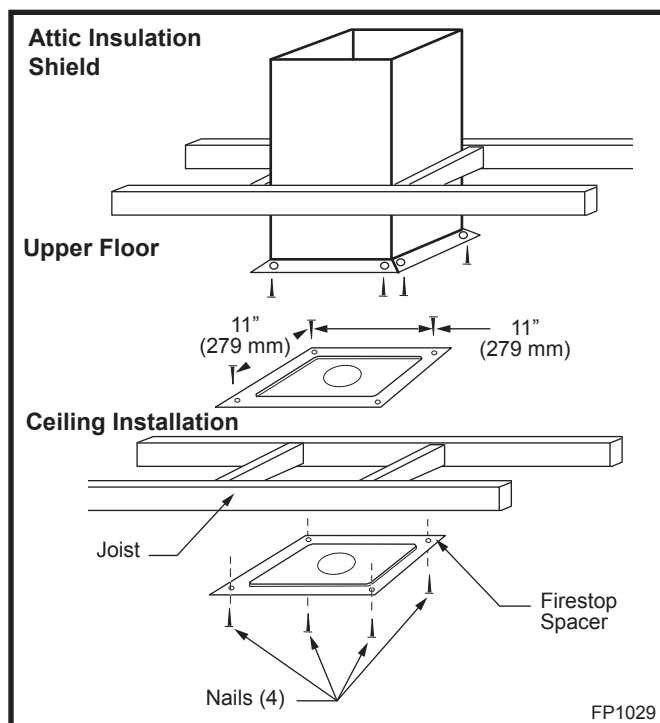

Fig. 41 Place firestop spacer(s) and secure.
6. Place firestop(s) #7DVFS or Attic Insulation Shield #7DVAIS into position and secure. (Fig. 41)